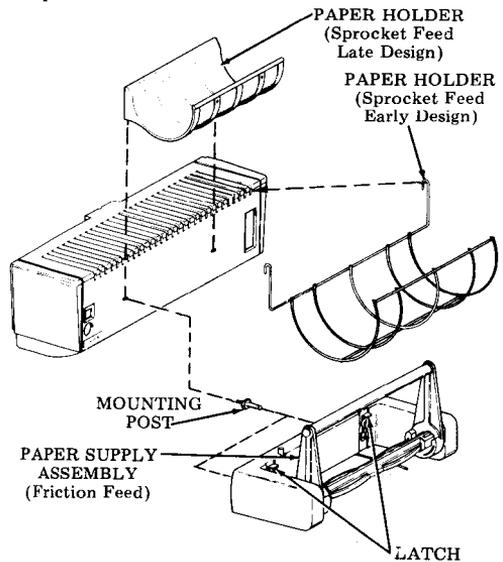

Fig. 6
3.14 Assemble the paper holder or paper supply assembly as shown in Fig. 6.